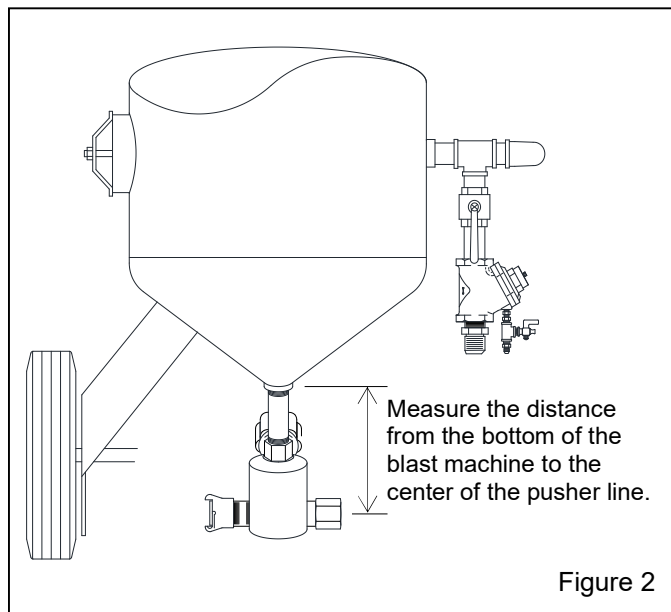
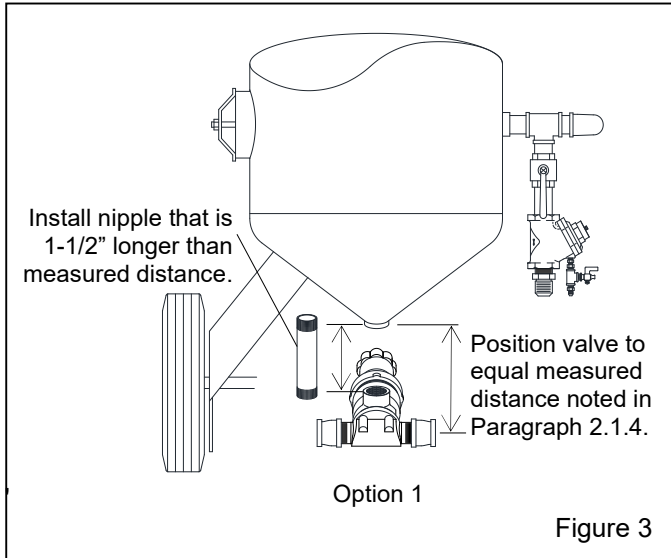

Figure 2
Figure 3
2.1.4 Measure the distance from the bottom the blast machine to the center of the pusher line, as shown in Figure 2. This distance could be critical when the PT Valve must be aligned to match the pusher line and blast hose couplings at fixed position, as noted in Section 2.3, Option 1, Figure 3.
2.2 Install Pipe Fittings onto PT Valve – Figure 3
2.3 Install PT Valve onto Blast Machine – Figure 3
2.3.1.1 **Option 1, Figure 3:** Place the PT valve under the blast machine, so the distance between the center of the pusher line and the bottom of the blast machine are the same as noted in Paragraph 2.1.4. Measure the distance from the top of the valve to the bottom of the
blast machine (as shown in Figure 3). Add 1-1/2" and procure a 1-1/2-NPT nipple that equals the total length. Apply pipe thread sealant to the male NPT threads, screw the nipple into the top port on the PT valve, and attach the valve to the bottom of the blast machine, as shown in Figure 3. **NOTE: A 1-1/2" x 1-1/4" bushing may be required on the blast machine, depending on the vintage of the machine.**